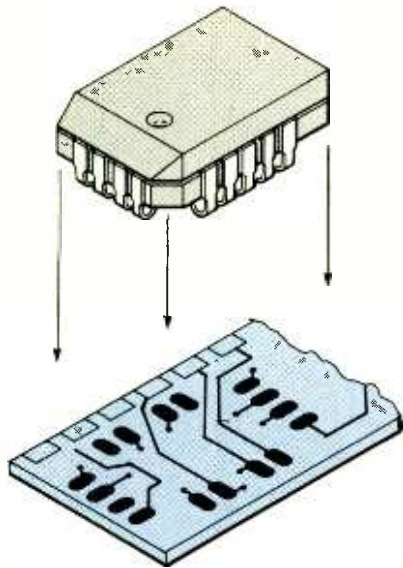

Fig. 1. This is a typical surface mount footprint suitable for a J-leaded component. Note that there are pins on all four sides of the chip.
**The Advantages of Surface Mounting?** Surface Mounting involves a component being soldered directly to a "footprint" rather than inserting the leads into holes (called "thru-holes") on a printed-circuit board (PCB). The footprint is a series of solder pads that conform to the lead layout of the surface-mount component (see Fig. 1).
Figure 1 shows a simplified typical connection between the utility distribution transformer and a 120-VAC receptacle. Power is distributed in most parts of the country through high-voltage power mains at 7,200 or 12,200 VAC.